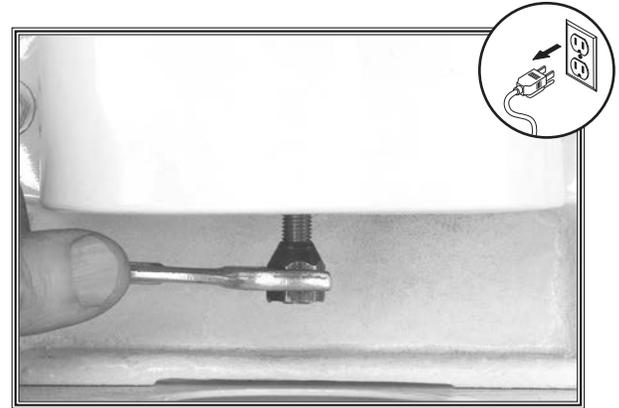

Figure 52. Removing taper nut from drawbar.
3. Remove table from shaper by removing (7) bolts and washers that secure it in place.
4. Loosen and remove taper nut from drawbar (see **Figure 52**) while holding top of spindle with wrench.